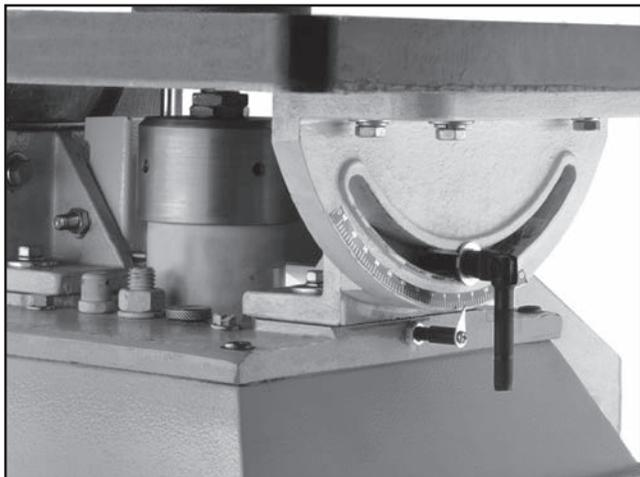

Figure 26. Trunnion lock handle.
2. Adjust the table to the desired angle and secure it into position with the trunnion lock handles shown in **Figure 26**.